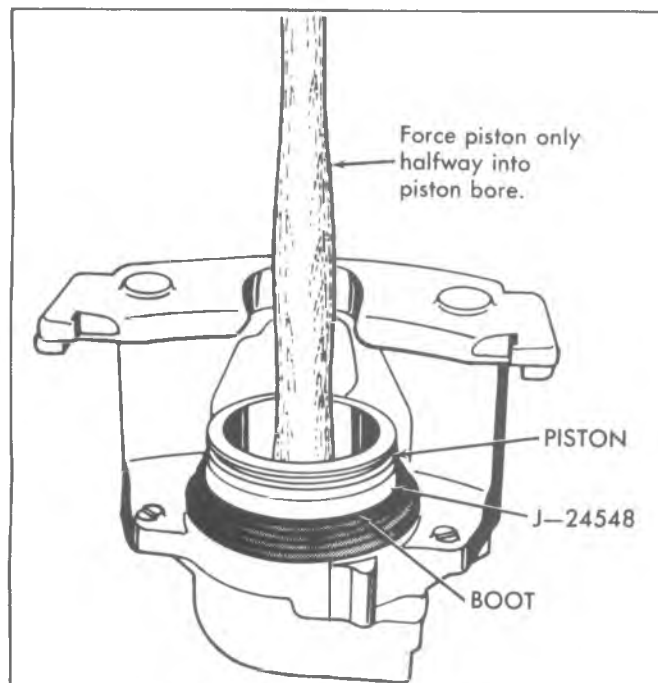

Fig. 5-42—Installing Piston in Caliper
3. Place the piston inside of Tool J-24548, force the piston halfway into the piston bore using a wood hammer handle or "C" clamp (fig. 5-42); remove Tool J-24548. Check to be sure the boot was not unseated at piston installation. Make sure the outer bead of the boot is seated in the piston outer groove.